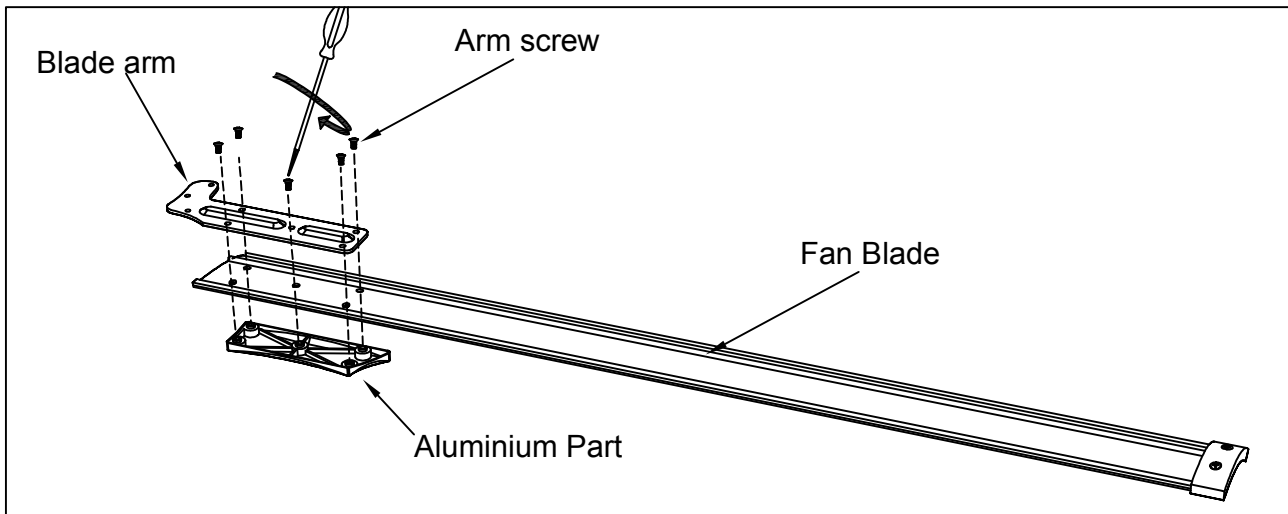

Figure 5.1
- Install the blade arm and the aluminium part on the fan blade. (Figure 5.1)